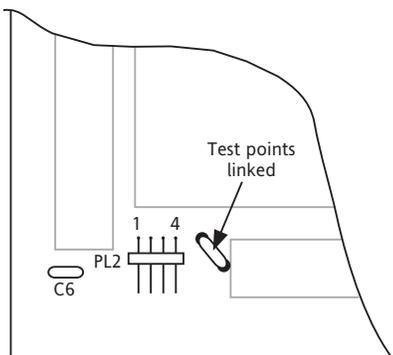

Figure 5.14.1c C6 fitted, test points linked
3. C6 fitted, C7 not fitted (figure 5.14.1c). Link fitted between top end C7 location and PL2 pin 6 - follow procedure 'C'.
2. Remove the link between PL2 position 6 and the top end of C7 location, and any test pins fitted (figure 5.14.1c).